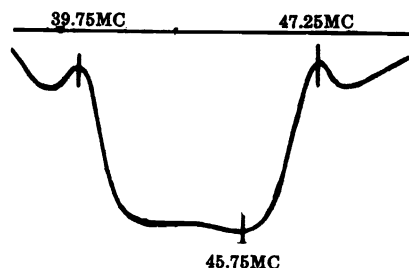

Figure 4
14. Adjust the marker generator to the picture carrier frequency and then adjust T102 (on top of tuner) and T204 (bottom) for maximum amplitude without tilt, positioning the picture carrier marker at the high frequency corner of the response curve shown in figure 4.